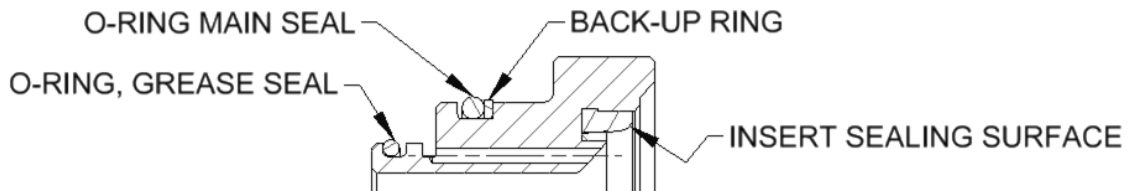

Figure 10 – 370D6 Seat Assembly
3. Inspect the seats, paying careful attention to the insert sealing surfaces. Reject and replace all seats with dings, scratches, or any other physical defects. Install the O-rings and the backup ring. The back-up ring should be on the head side of the seat as shown in Fig. 10. Apply lubricant until completely covering the O-rings and back-up ring.